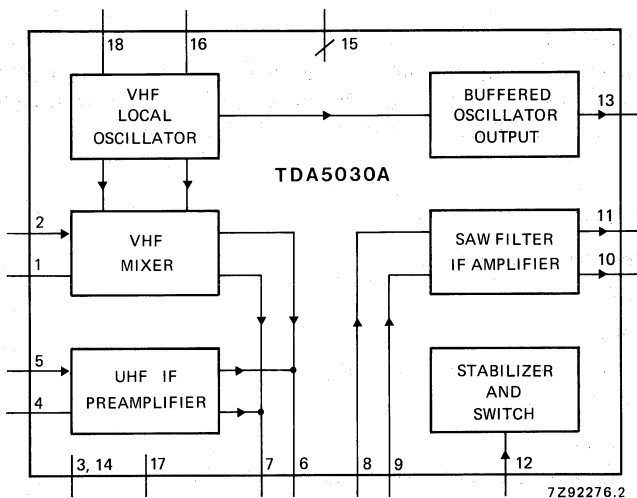

Fig. 1 Block diagram.
- L2: } see Fig.1
(1) Field strength indication of main IF amplifier.